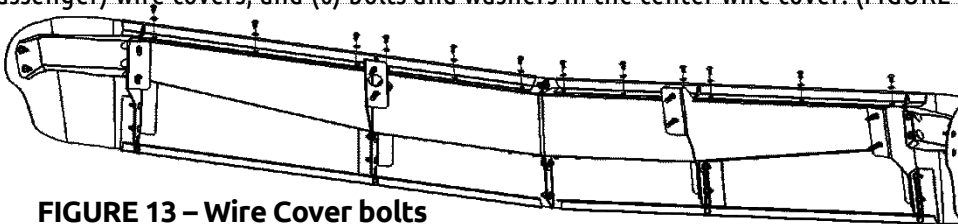

FIGURE 13 – Wire Cover bolts
9. Using Loctite on bolts, install 10-32 bolts with washers into the wire covers. Use (3) bolts and washers in each of the outer (driver/passenger) wire covers, and (6) bolts and washers in the center wire cover. (FIGURE 13)